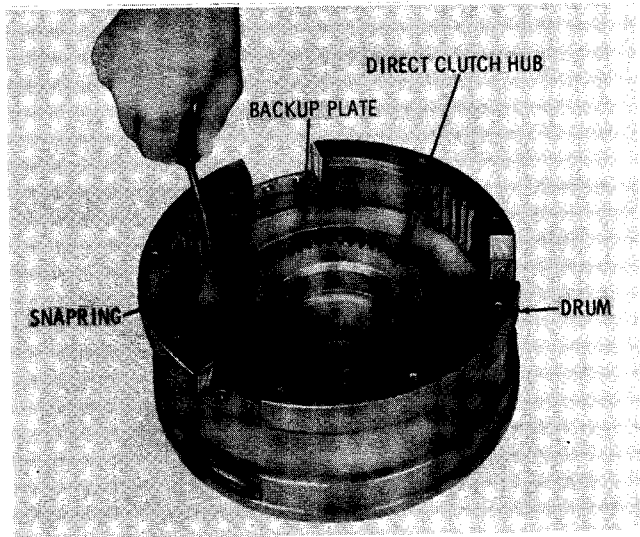

Fig. 5-28. Removing (or installing) backup plate snapping (VS series)
(8) Remove the backup plate snapping (fig. 5-28) from the drum. Remove the backup plate and the other backup plate snapping. Turn drum over and remove seven external- and seven internal-splined plates (plates will drop out).